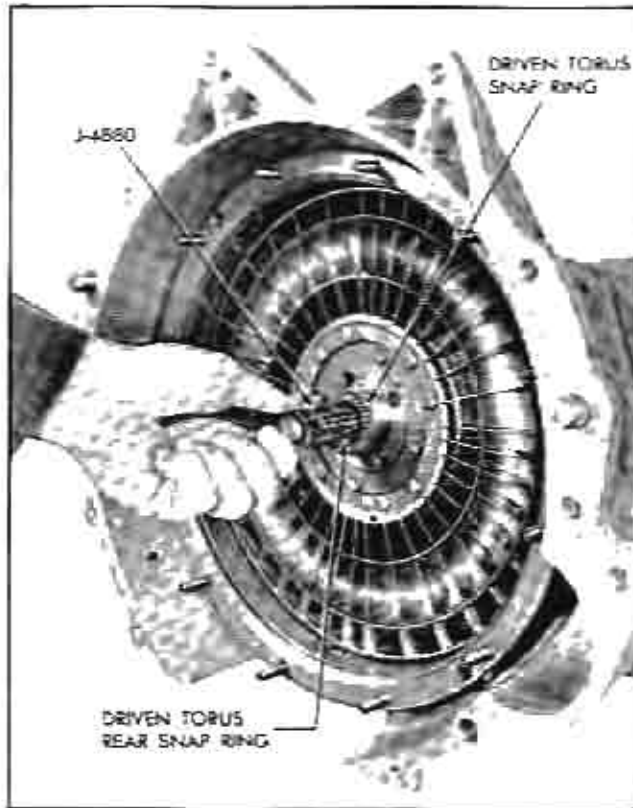

Fig. 47 Removing Driven Torus Rear Snap Ring
7. Remove driven torus member rear snap ring from main shaft, using tool J-4880 (Fig. 47).
8. Remove drive torus member snap ring from intermediate shaft (Fig. 47).